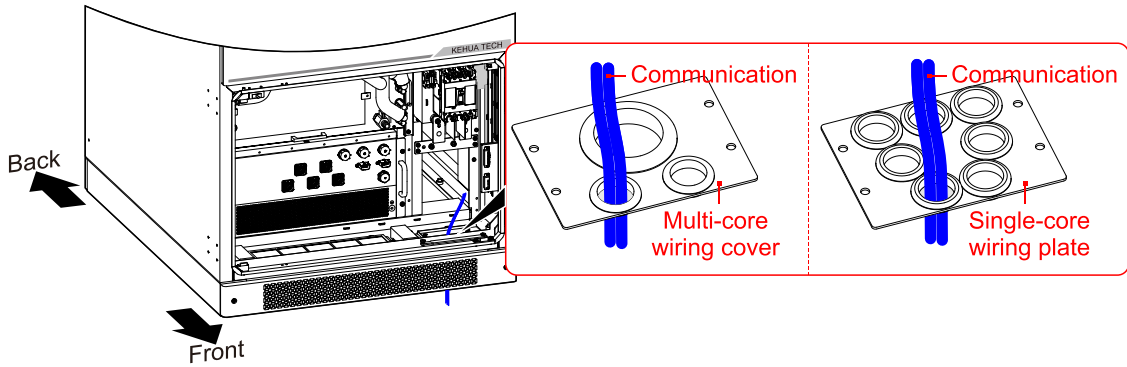

Figure4-26 Wiring hole diagram
Step 1 According to the actual needs, lead the external communication cables go through the bottom wiring hole, as shown in Figure4-26